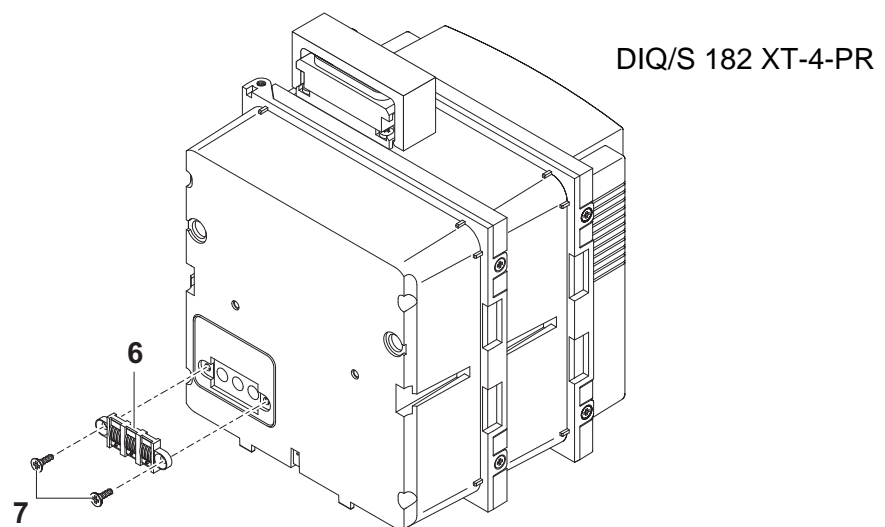

Fig. 3-8 Mounting the contact base (variant 2)
- 5 Fix the contact base (pos. 6 in Fig. 3-8) onto the DIQ/S 182-XT-4-MOD with the two plastic self-tapping screws (pos. 7).